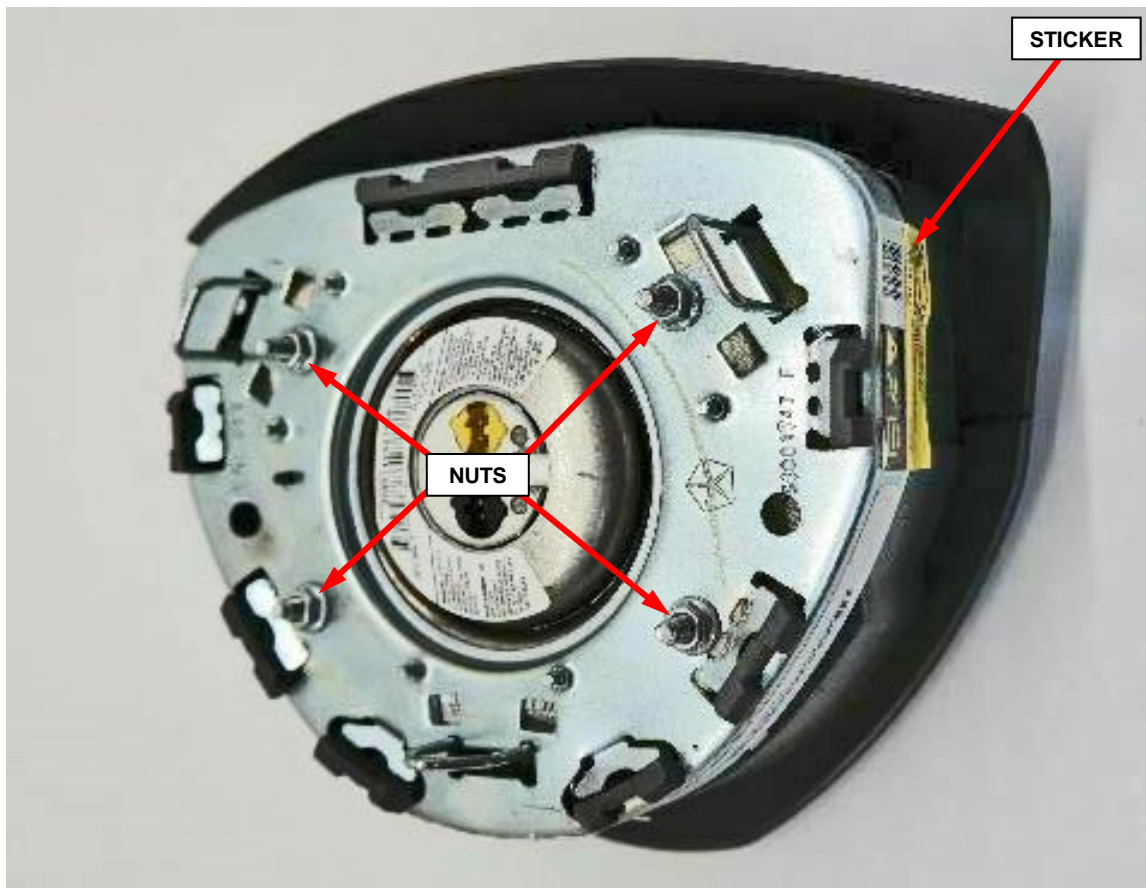

Figure 20 – Backing Plate Nuts and “Do Not Tamper” Sticker
19. Reapply the “Do Not Tamper” sticker that overlaps both the plastic cover and the backing plate (Figure 20).
20. Install the four nuts securing the backing plate and tighten in a star pattern sequence to 5 N·m (44 in. lbs.) (Figure 20).